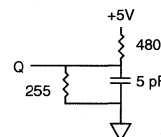

Fig. 2 OUTPUT LOAD EQUIVALENT
- ^tHZCE, ^tHZOE, ^tHZBE and ^tHZWE are specified with CL = 5pF as in Fig. 2. Transition is measured ±500mV from steady state voltage.